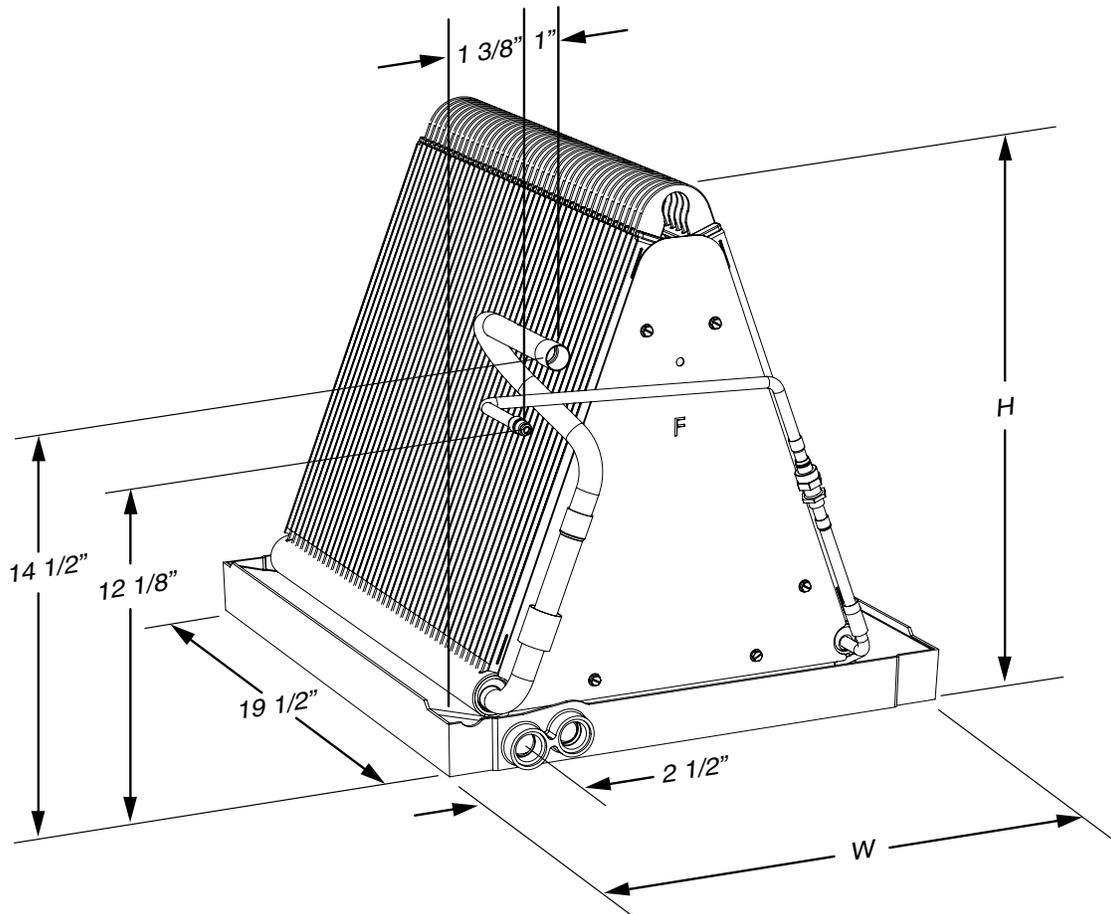

Figure 5. C8BA Coil Dimensions
2. Install the coil case on the furnace air discharge opening and level it as needed to ensure proper condensate drainage. If needed, make a plate to adapt the coil to the air discharge opening. See Figure 5 (page 6) for coil dimensions.